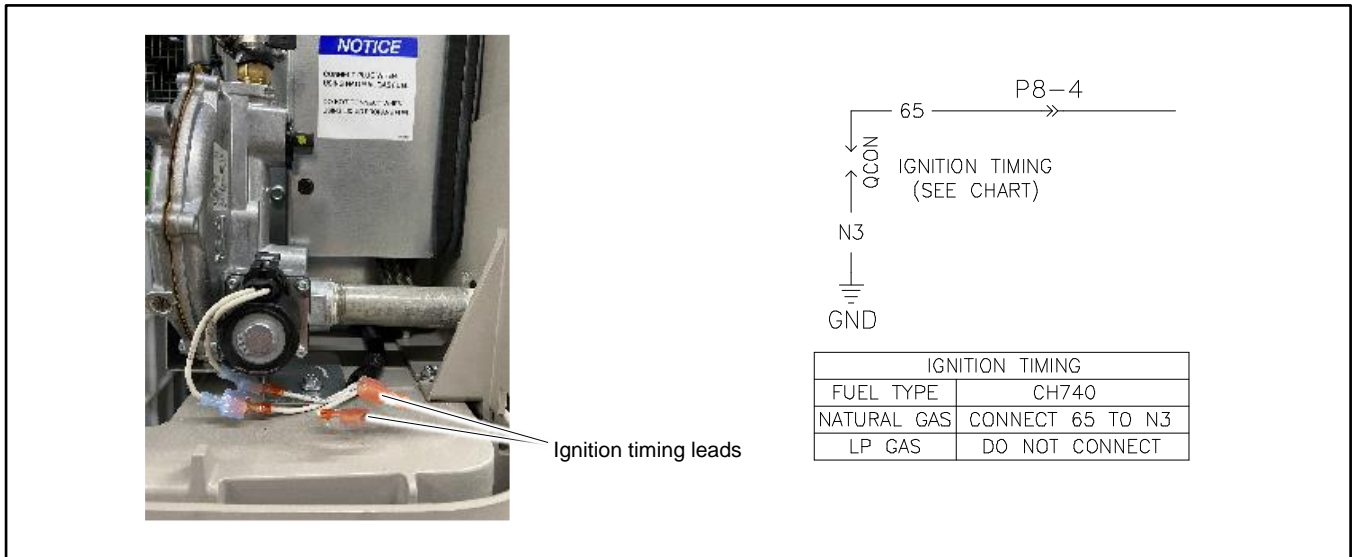

Figure 20 Ignition Timing Leads
6. Find the ignition timing leads 65 and N, located near the regulator. See Figure 20.
- a. For natural gas (NG), connect lead 65 to lead N3.